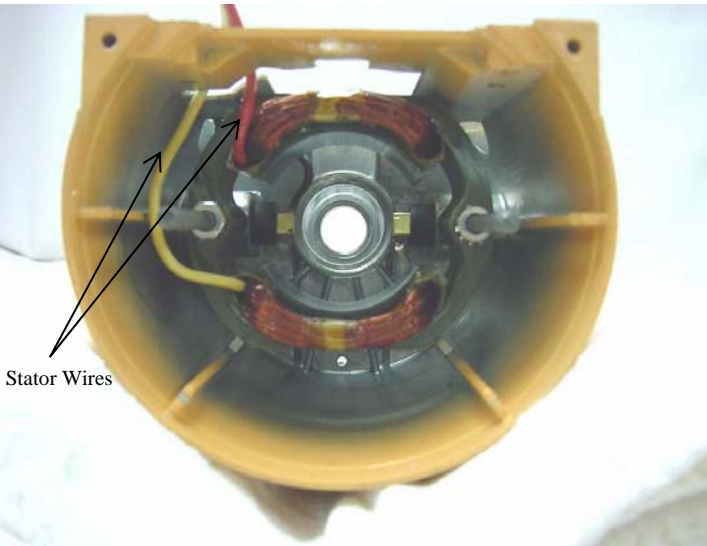

Fig. 31 Wire orientation inside the gearcase-motor housing
H. Pull the two wires from the rear of the stator through the slot in the gearcase-motor housing so they are inside the gearcase-motor housing and sticking out the back (Fig. 31).